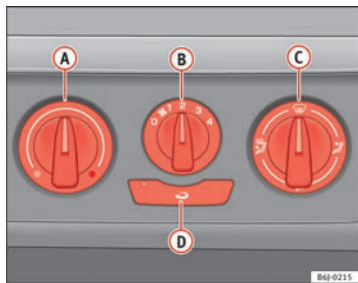

Fig. 90 Heating controls on the dash panel
- Using the controls **(A)** and **(C)** and with the switch **(B)** ⇒ fig. 90 you can adjust the temperature, the air distribution and the blower speed.